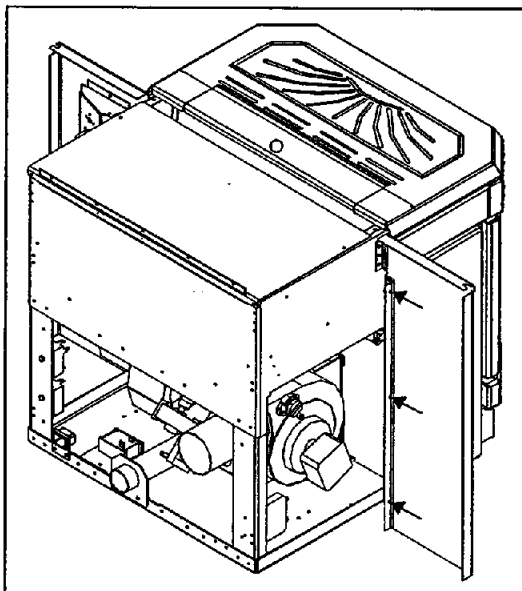

Figure 31: Panel placed on unit.
2. Using three (3) T-20 screws on each side attach the hinges on the side surround panels to the unit's side panels (refer to Figure 31).